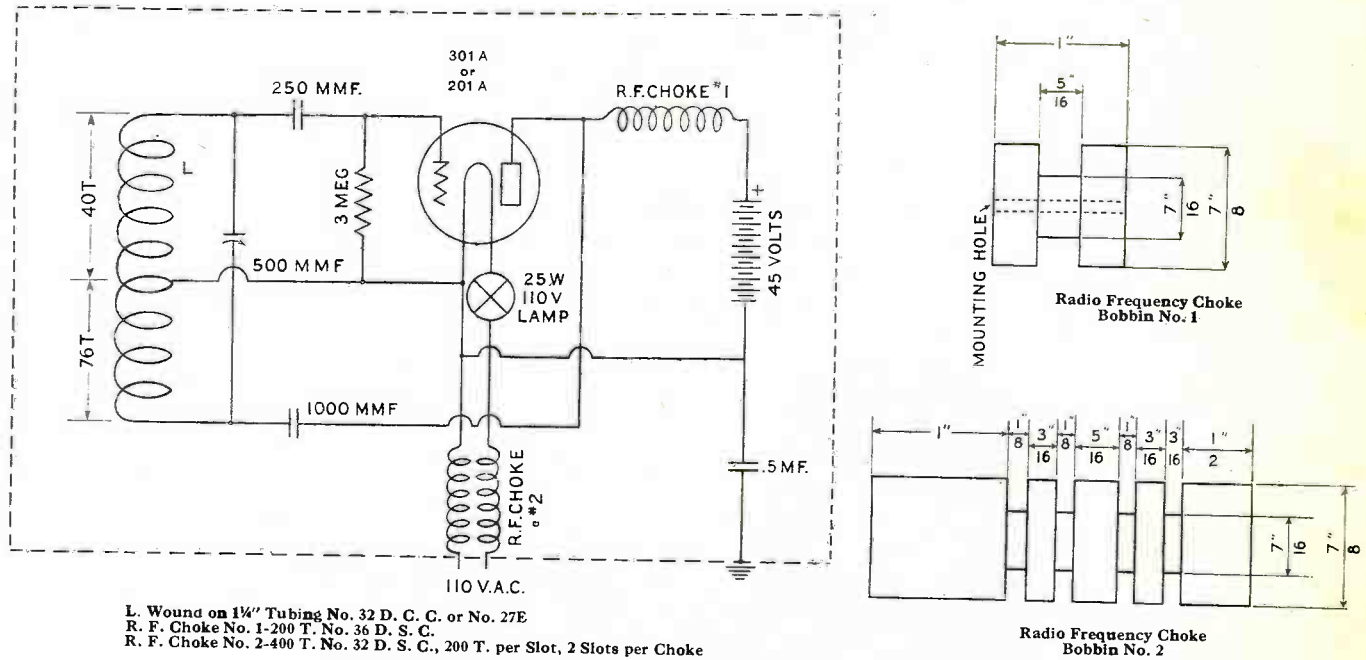

Fig. 4 - Socket-Powered Audio-Modulated Oscillator.
(11) Capacity Tests. Large condensers having capacities from 0.1 mf. up are measured by connecting them in series with the 110-volt 60-cycle line and measuring the current. The current flow through the condenser is proportional to its capacity. Charts giving the capacity values for different current readings are usually furnished with the analyzers. This test is very useful for testing "B" eliminator, filter and by-pass condensers.
(12) Modulated Oscillator. A modulated oscillator (which is simply a miniature radio transmitting station) is useful in balancing or neutralizing sets. While a strong local broadcast station may serve the purpose of balancing, when no oscillator is available, the oscillator is more reliable and should be part of every Service Man's equipment. A simple modulated oscillator can be constructed by following the diagram. Fig. 4. This is a Hartley oscillator, which is self-modulated by the grid condenser and grid leak;